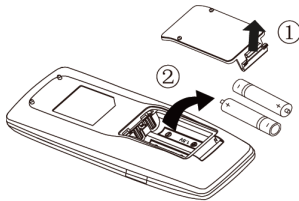

Fig.1
- (1) Lift the cover along the direction of arrow (as shown in Fig 1 ①).
- (2) Take out the original batteries (as shown in Fig 1 ②).